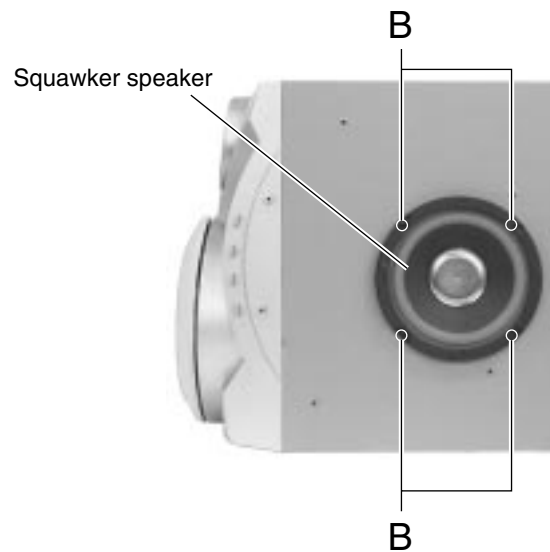

Fig.2
■ Removing the squawker speaker (See Fig.2)